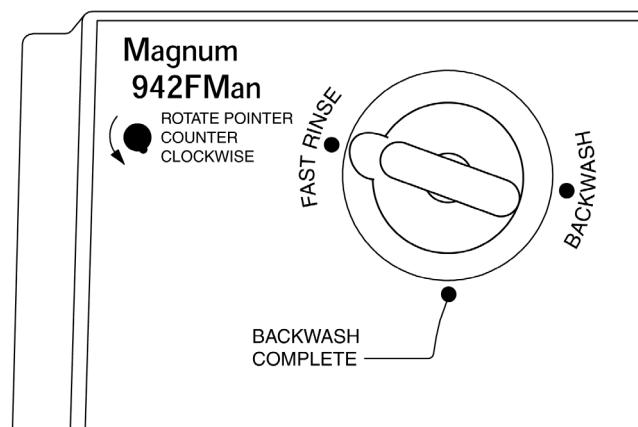

Figure 5.7
2. When the backwash is finished, move the indicator knob COUNTERCLOCKWISE to the center of the **Fast Rinse** position (Figure 5.7). The knob should remain in the **Fast Rinse** position for 5 to 20 minutes\*, or until the water runs clear at the drain.